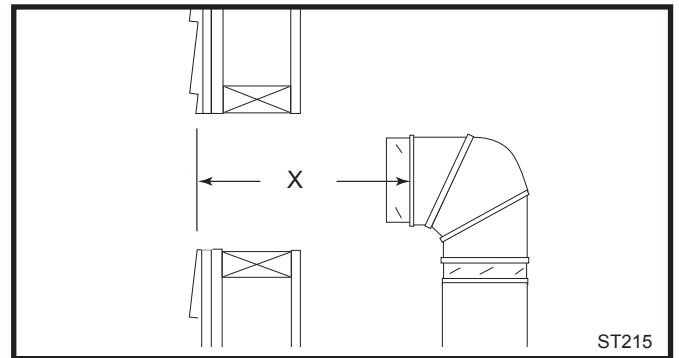

Fig. 26 Measure the horizontal length.
7. Measure, and cut if necessary, the appropriate length of pipe section needed to make the connection through the wall. Include a 2" overlap; i.e. from the elbow to the outside wall face, about 2" or the distance required if installing a second 90° elbow. (Fig. 26)